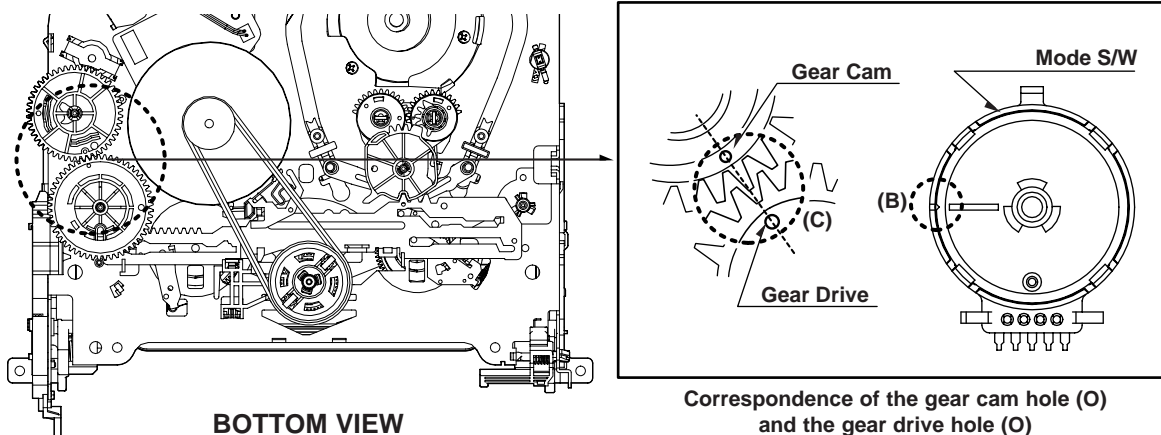
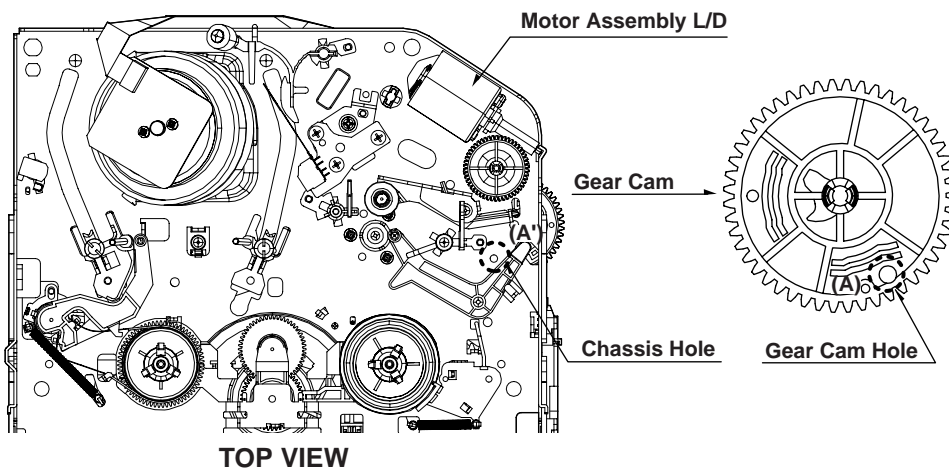

Fig. C-1
Fig. C-2
<ol style="list-style-type: none"> 1) Turn the VCR on and take the tape out by pressing the eject button. 2) Separate both top cover and plate top, and check both the hole (A) of gear cam and the hole (A') of chassis correspond (Fig. C-2). 3) If it is done as in the paragraph 2): Turn the gear cam as in No.2) after mantling the motor assembly L/D. 4) Undo the screw fixing the deck and the main frame, and separate the deck assembly. Check both the hole (A) of gear cam and the hole (A') of chassis correspond (Fig. C-1). 5) Check the mode S/W on the main P.C. board locates at a proper position as in (B) of the Fig. (C-1). 6) Connect the deck to the main P.C. board and perform all types of test.